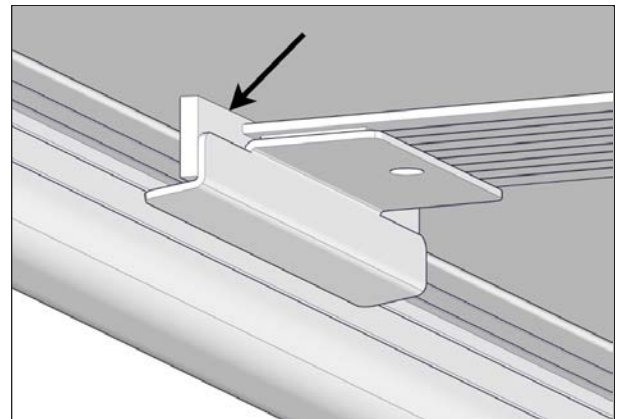

FIGURE 56: FINAL POSITION OF THE WIPER
At the final position of the wiper, the flap must touch the edge of the I-beam, see Figure 56.
4. Stick the wiper bracket on the middle of the I-beam by holding it in place and maintaining pressure for at least 60 seconds. This ensures a proper bond to the I-beam. Make sure you install the wiper flap at the edge of the I-beam directly into the gap between the I-beam and the C-channel, see Figure 56.